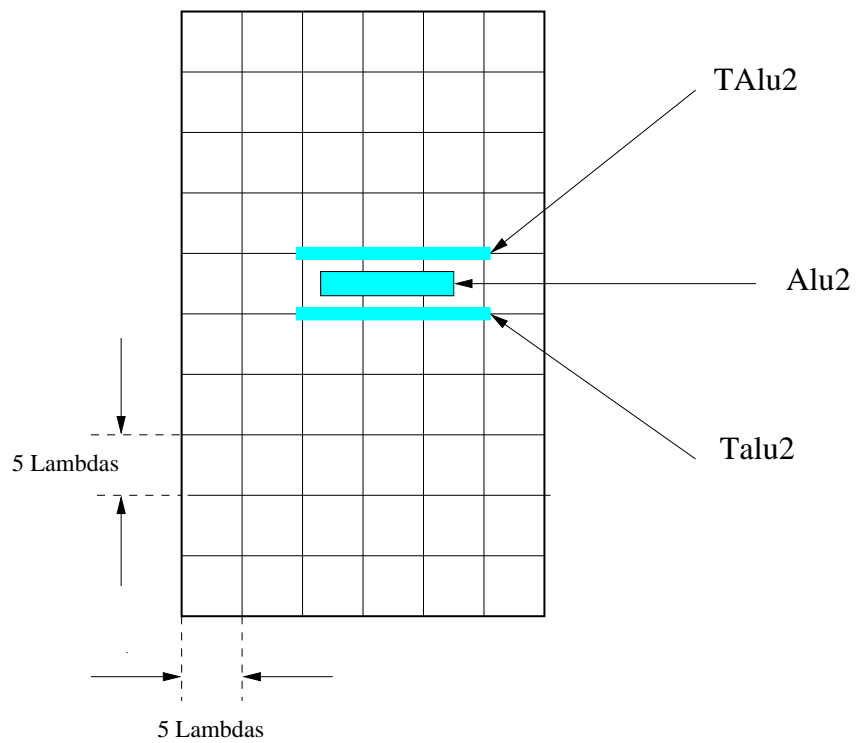

Figure 5: Use the layer TAluX like protection
- The special segments TALux (TAlu1, TAlu2...) are used to indicate the obstacles for the router. When you want to protect AluX segment, it is necessary to cover them or surround them by corresponding TALux (same layer). TAluX are placed on a grid with 5 lambdas steps (figure 5).